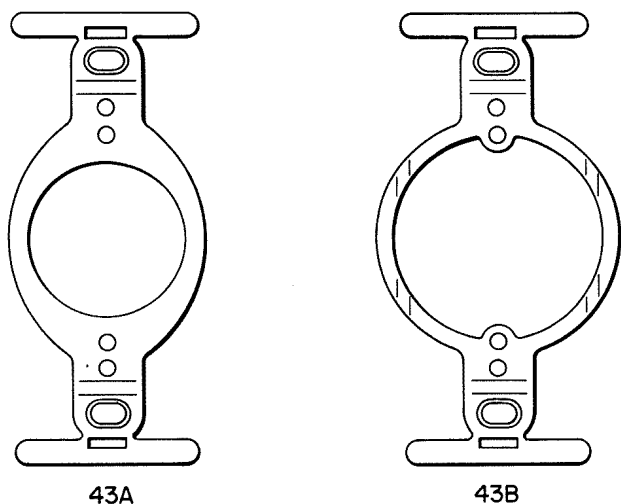

Fig. 24 — 43-Type Brackets
3.01 The 43-type brackets (Fig. 24) are intended for use in mounting jacks in electrical outlet boxes. The 43A bracket is used as a component of the 497A and older 550A jacks and can be used to mount the 493A (MD) and 548A jacks. The 43B bracket is a component of the 547B and newer 550A jacks. It also may be used to mount the 493A (MD) and 548A jacks.